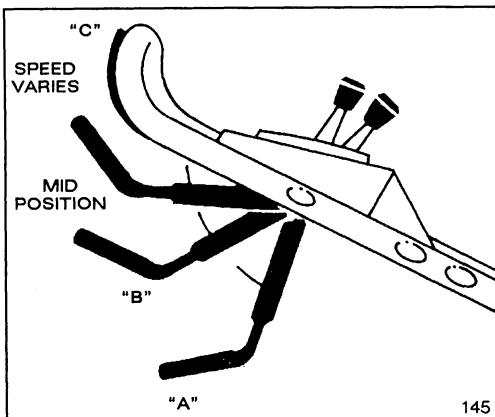

Figure 8
**5. BLADE AND TRACTION OPERATION** (Fig. 8)—Move control bar down to "A" and raise to "B" to engage blade. Squeeze control bar against handle